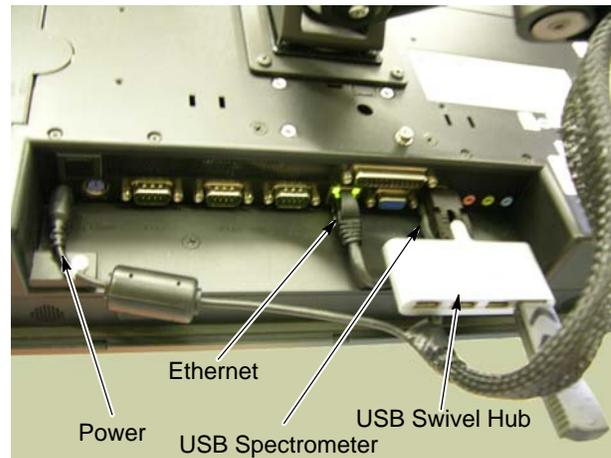

Figure 6 Port and USB Connection on Back of ACS-1 Computer
1. See Figure 6. Connect the power, Ethernet, and USB spectrometer cables to the back of the computer.